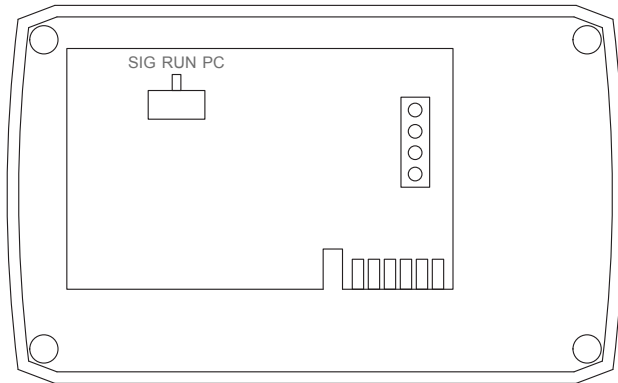

Figure 3. Configuring the PCB on the lid
2. Set the internal switch on the PCB to the 'SIG' position (see figure 3).